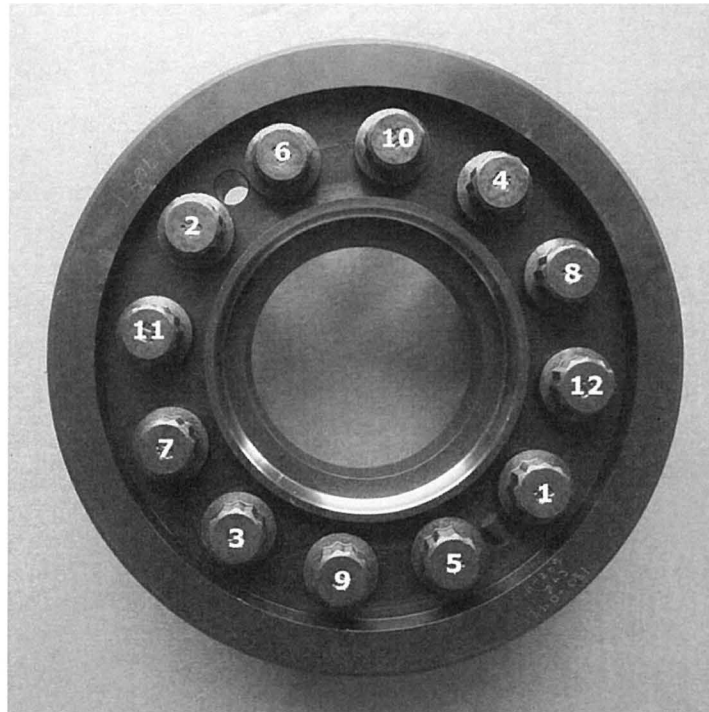

FIGURE 9
30. Remove support from under outer edge of wheel assembly or from sling in slots in O.D. of wheel to overhead lifting device. Initially torque all bolts to 120 ft. lbs. using torque sequence shown in **(Figure 9)**. Remember to rotate wheel to align rollers in bearings as bolts are torqued. Now continue torquing all bolts in 40 ft. lb. increments to final 280 ft. lbs. (+28/-0) using torque sequence shown. **(See Figure 9)**. Retorque until bolts no longer advance at specified torque.